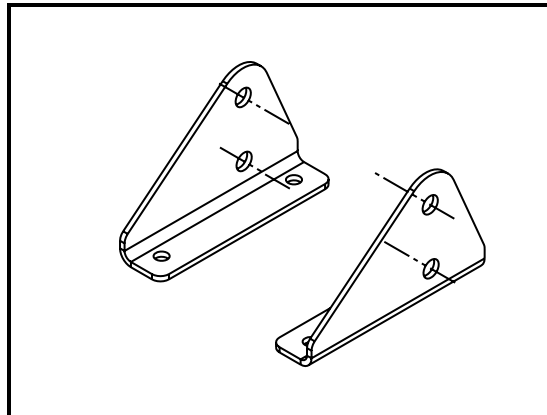

FIGURE 1
1. If the hitch plate/seat box exhibits a hair line crack in the lower edges around the hitch plate and the tractor has the two hole support brackets 783-04132A and 783-04137A for the rear bagger, see Figure 1, install service kit **753-05471**. This service kit replaces the two hole support brackets, 783-04132A and 783-04137A, reinforces the hitch plate/seat box and redistributes the bagger loads off of the hitch plate.